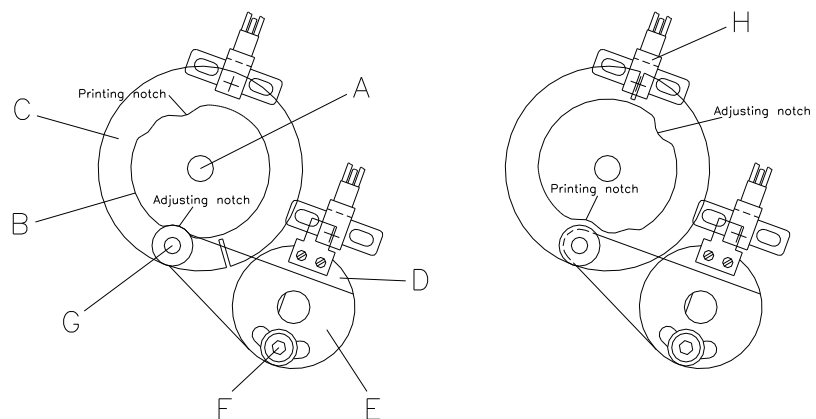

Figure 22
The sketch (see Figure 22) shows from behind the shaft of ribbon save motor (A) with the pressure curve (B) and disc (C). The bearing ring (D) with the attached sole plate (E) is underneath.
4. Loosen the hex socket head screw (F) about 1 turn until the sole plate (E) with the attached ball bearing is freely mobile.
5. Turn by hand the motor shaft with pressure curve and disk in the adjusting position (see Figure 22).
6. Press the sole plate (E) with the ball bearing (G) in the adjusting notch of the pressure curve. Take care of not to have too much play. Fasten the hex socket head screw (F).
8. Turn by hand the motor shaft with pressure curve and disc into the adjusting position (see Figure 22).
10. Turn by hand the motor shaft with pressure curve and disk from the lift to the right until a slight resistance can be noticed. If the slot in the disk can be moved slightly to the right and to the left out of the photocell (H), then the pressure curve is adjusted correctly.